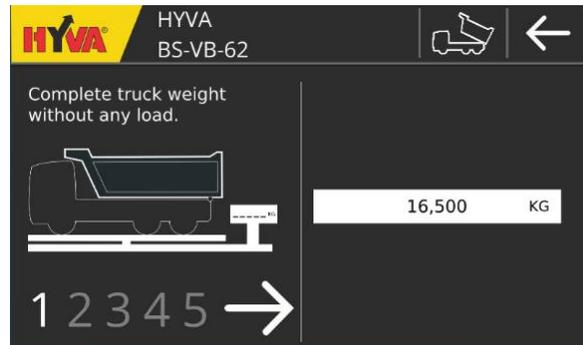

FIGURE 11 PAYLOAD CALIBRATION - STEP 1
Step 1 (Figure 11): fill in the total weight of the truck without payload. Enter the total weight in the text box.